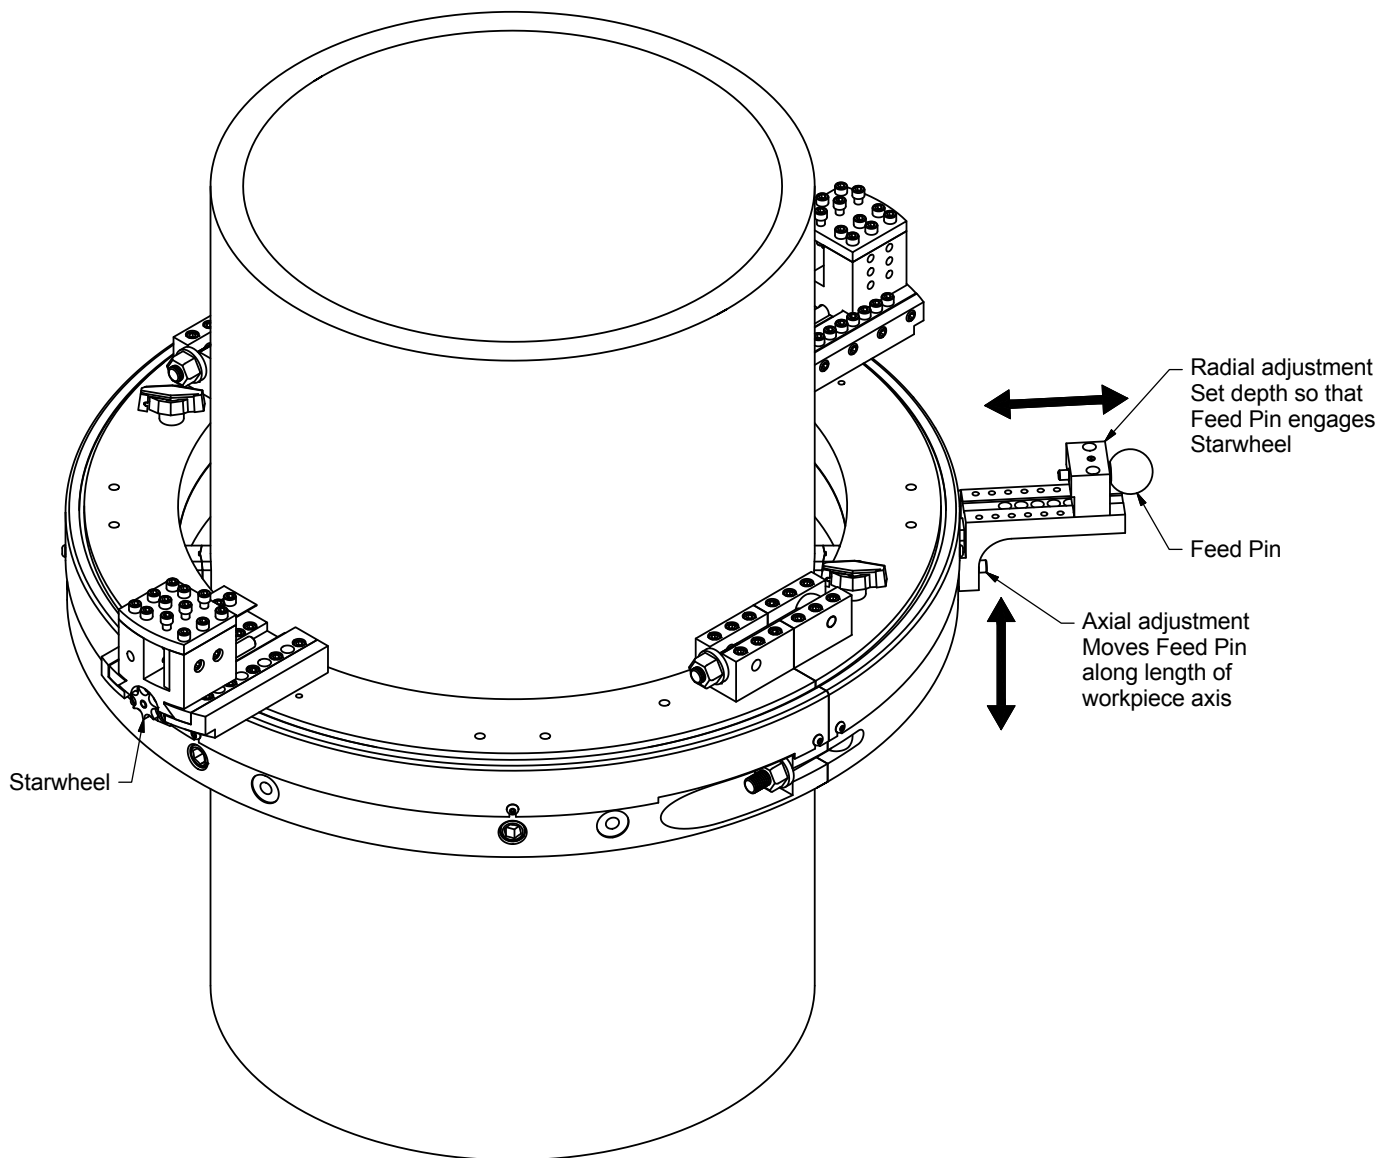

Figure 2-6 – Set Feed Pin Axial and Radial Positions
7. Remove two lock pins. Manually rotate the clamshell gear to check for smooth operation. Make sure the feed pin properly engages both tool block starwheels. Adjust the feed bracket axial and radial positions to engage the feed pin. See Figure 2-6.